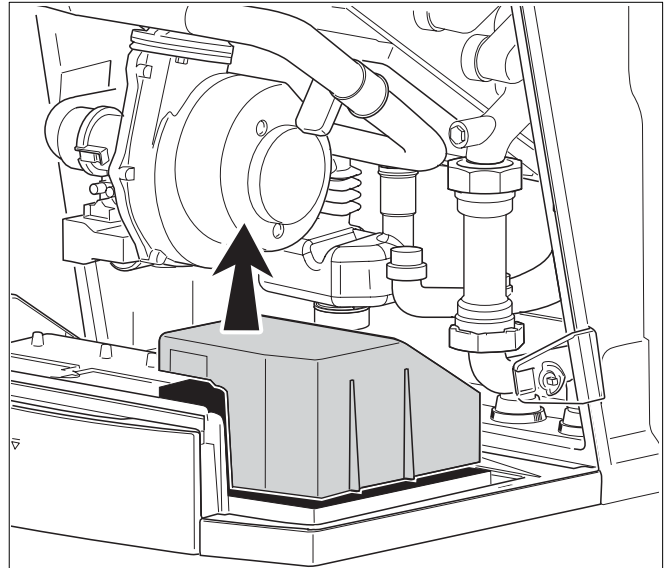

Fig. 89 Removing the cover from the connection box
- Remove the cover from the connection box (see fig. 89).